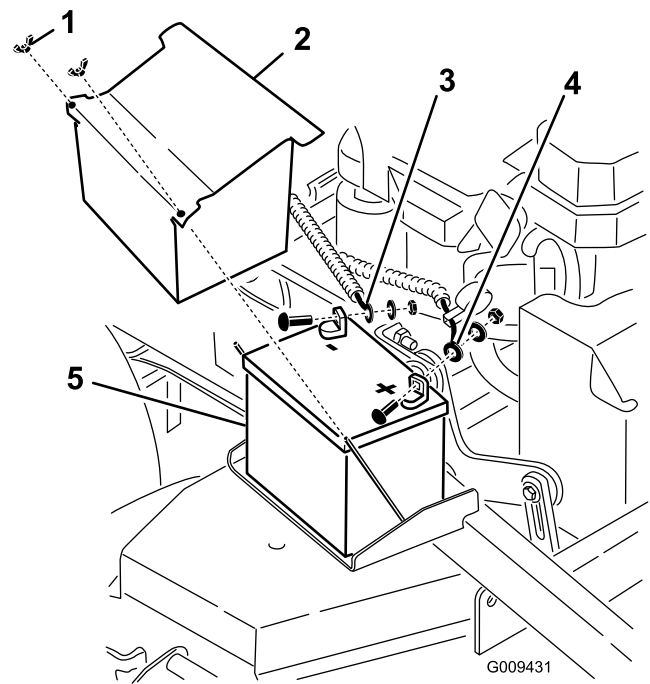

Figure 53
3. Lift the black rubber cover on the negative cable. Disconnect the negative battery cable from the negative (-) battery terminal (Figure 53).
4. Slide the red terminal boot off the positive (red) battery terminal. Then remove the positive (red) battery cable (Figure 53).
5. Remove the battery hold down plate (Figure 53) and remove the battery.
1. Place the battery onto the machine (Figure 53).
3. First, install the positive (red) battery cable to positive (+) battery terminal with a nut, washer and bolt (Figure 53). Slide the rubber cover over the post.
4. Then install the negative battery cable and ground wire to the negative (-) battery terminal with a nut, washer and bolt (Figure 53). Slide the rubber cover over the post.